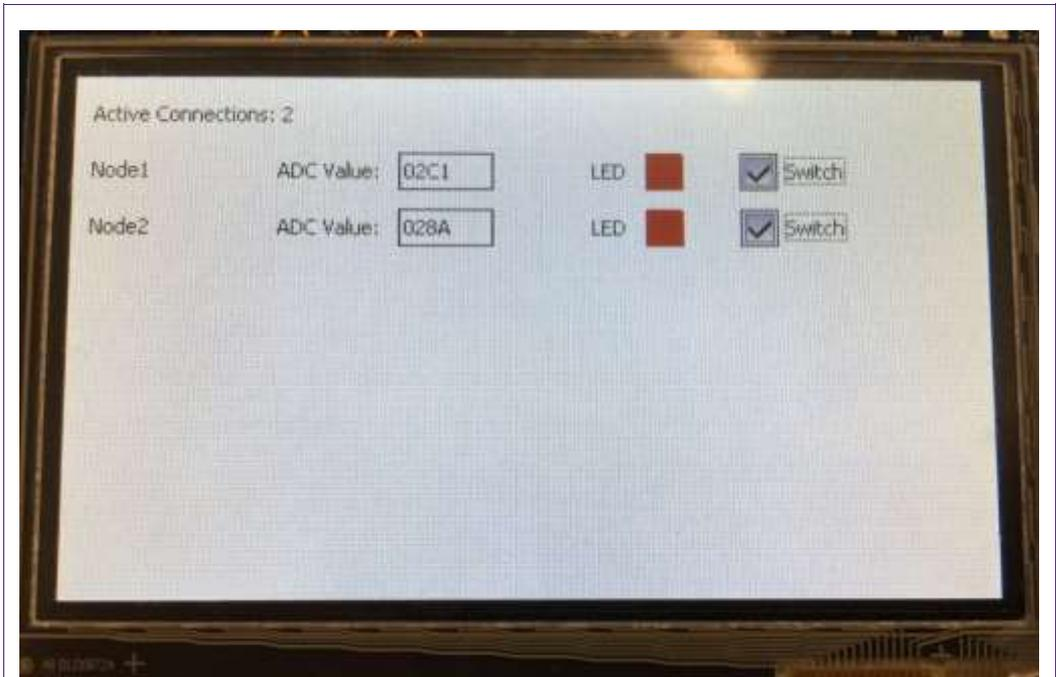
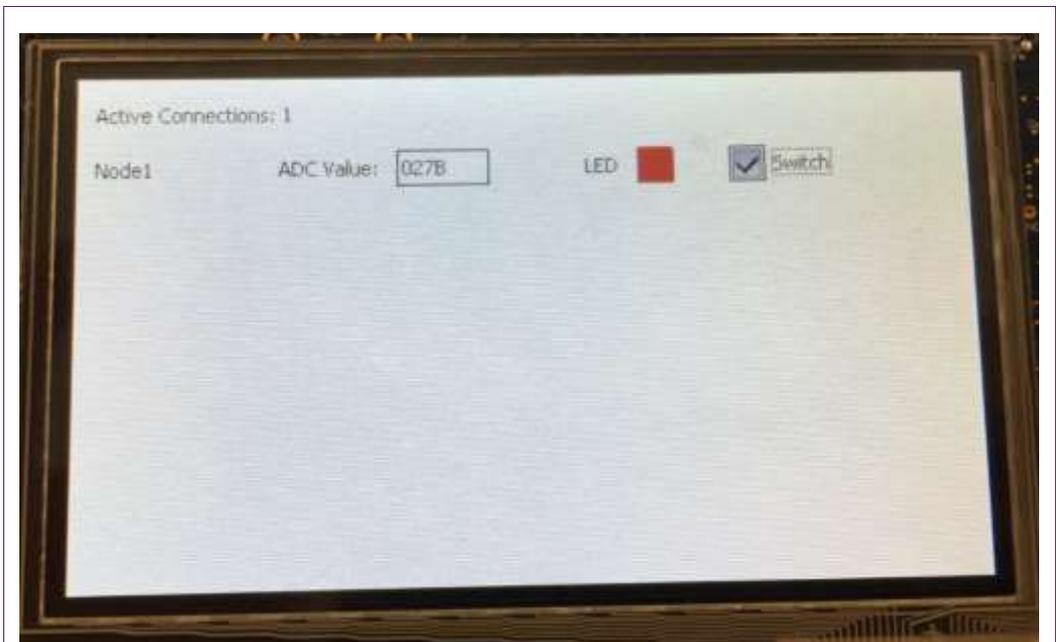

Fig 2. GUI display on server connected to two clients
Fig 3. GUI display on client connected to the server
The example demonstrates using sequential API's of the lwIP stack to implement a custom TCP server and client communicating on a user defined port and protocol running on FreeRTOS. The server receives ADC Channel 0 data (internal temperature sensor) from all the clients that it is connected, the server can control the LED's on all the connected clients. The client receives the ADC data from the server and can control the LED on the server, each client controls a different LED. The number of nodes connected to the ADC data and LED controls, and LED status of the connected node are displayed on the LCD display of the LPC54608 LPCXpresso development board using emWin graphics as shown in Fig 2 and Fig 3 below.
- Fig 2. GUI display on server connected to two clients 4